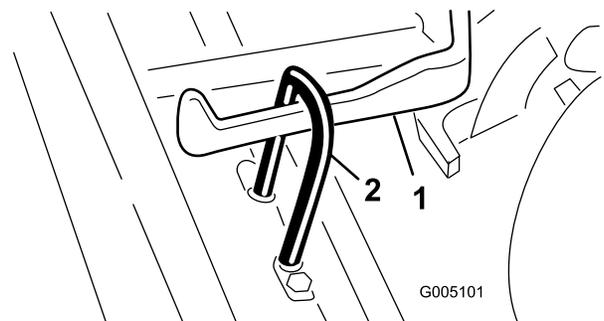

Figure 7
- Slide the cutting unit under the pull frame while hooking the lift hook onto the lift arm (Figure 7).